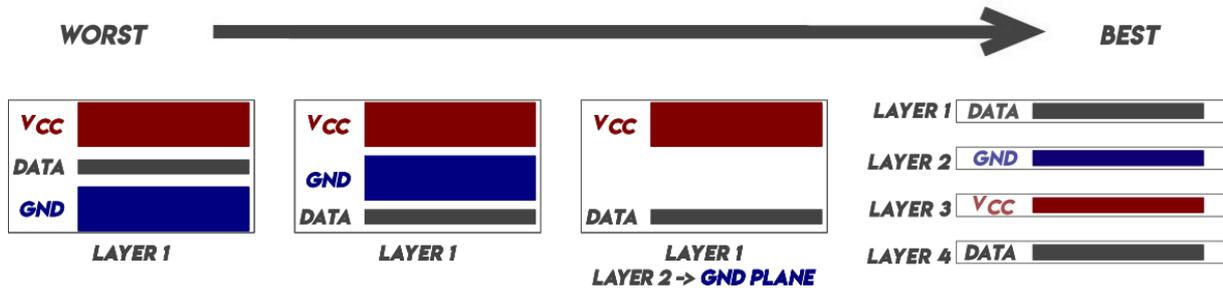

Figure 4: Placement of sensitive (low-amplitude, high-frequency, or low-energy) traces, respectively.
Nearly all PCB-level EMI protection methods are based on factors affecting these two types of fields. For example, basically the intensity of these two types of fields is inversely proportional to the distance between sources. Therefore, the inference that "sensitive transmission paths with low amplitude should not be placed between the circuit paths that will create a high potential difference in PCB design or near the switched circuit paths with high current amplitude" will be correct (Figure 4). Or if we remember that sharp corners create the leaking fields and fluxes, the inference that in order to the PCB trace to be less affected by itself, to avoid increased sensitivity to surrounding traces and for lower EMI generation in the environment the sharp corners on the PCB trace need to be rounded" will also be correct (Figure 3).
- 4- Low-amplitude sensitive traces should not be placed between circuit paths that will generate high potential difference or switched circuit paths with high current amplitude. (Figure 4)